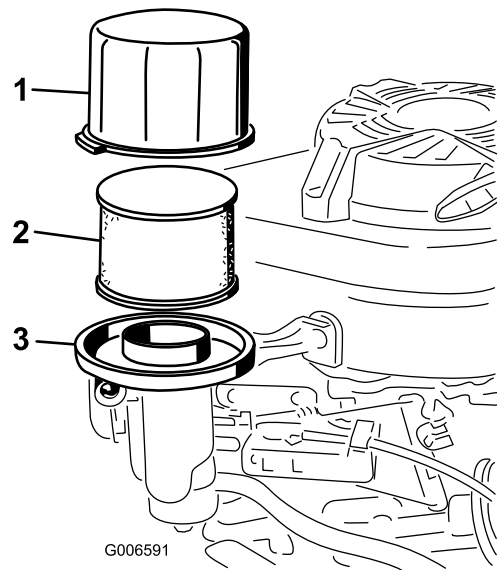

Figure 26
3. Remove the cover and clean it thoroughly (Figure 26).
4. Remove the foam pre-filter and paper filter (Figure 26).
5. Remove the foam pre-filter from the paper filter (Figure 26), and replace the paper filter if it is excessively dirty.
6. Tip the machine, with the air filter up, to drain the oil into the drain pan (Figure 26).